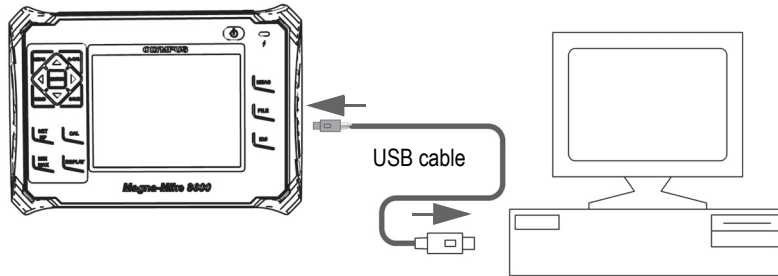

Figure 8-2 Connecting the Magna-Mike 8600 to a computer
7. Connect one end of a USB cable to the USB client connector behind the I/O door of the Magna-Mike 8600, and the other end to a USB port of the computer (see Figure 8-2 on page 139).